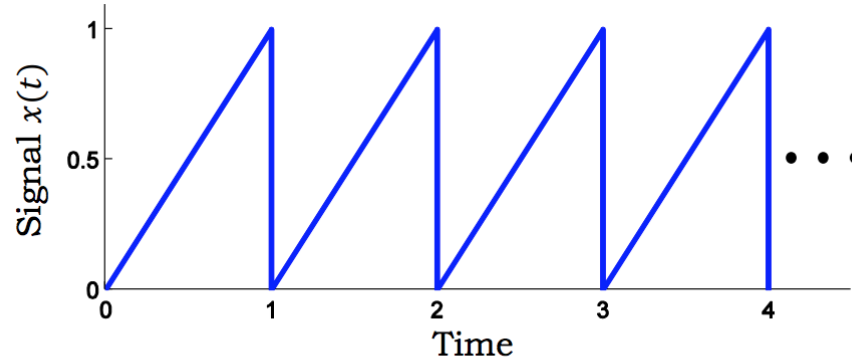

Figure 1: **Sawtooth wave**
2. If SW1 (interfaced to PF4) is pressed, then the signal to be generated is a saw-tooth wave with a period of 256 ms. The saw-tooth wave is shown in Figure 1. The numbers on the vertical axis, such as 0.5 and 1, indicate the half-scale and full-scale output. They do not mean specific voltage values. The horizontal line numbers represent the number of periods.